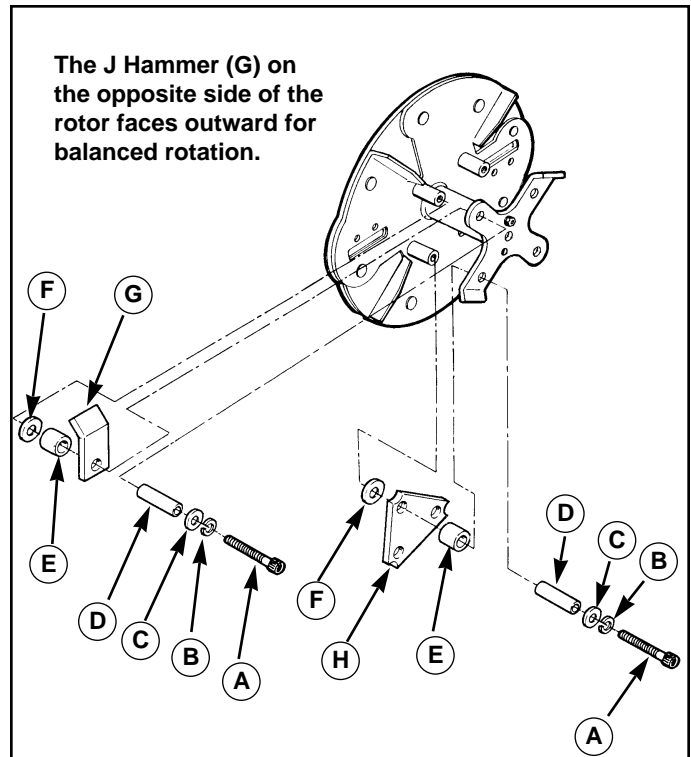

Figure 28. Proper Hammer Assembly
5. Before proceeding, note the assembly sequence of the hammer, spacer, spacer tube, and hardware. Hammers and spacers must be reassembled in the same order to ensure proper rotor balance, shredding efficiency, and safety. See Figure 28 for correct position of parts.
6. Using a 5/16" Allen wrench, remove the socket head cap screw (A, Figure 28), lockwasher (B), flat washer (C), and spacer tube (D), being careful to catch the parts as the cap screw is removed.
- Reassemble the hammer and related parts and hardware, observing the correct assembly sequence as shown in Figures 28 and 29.
8. Tighten the cap screw (A, Figure 28) securely. For proper assembly, torque to 30-35 ft. lbs.